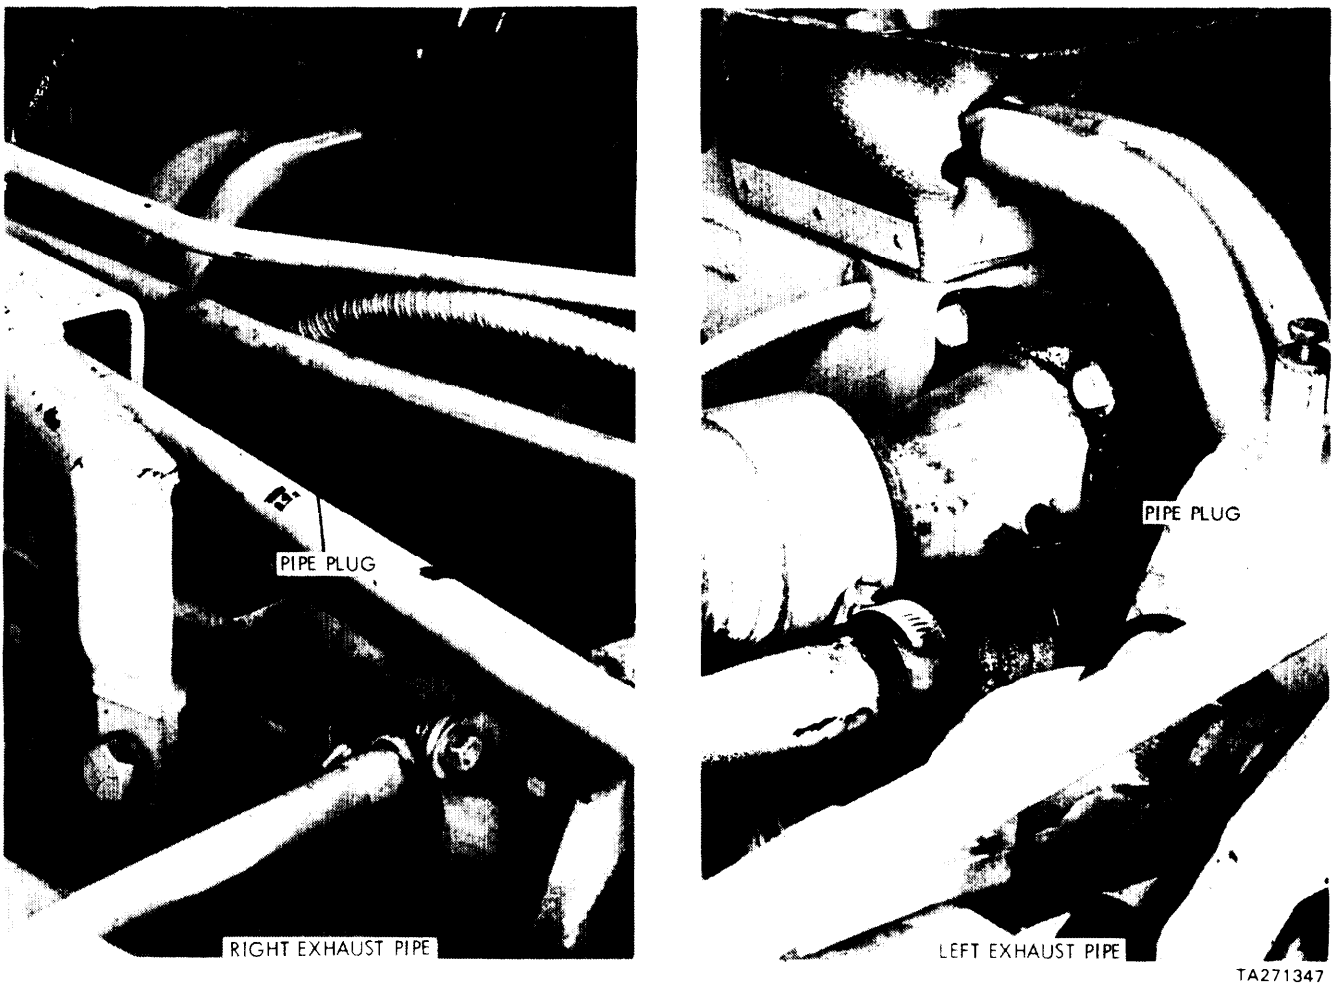

Figure 9. Removal of Exhaust Pipe Plugs
(3) Remove and discard pipe plugs from upper right and left bank exhaust pipe bosses (figure 9). It may be necessary to apply heat to the bosses to aid in plug removal.